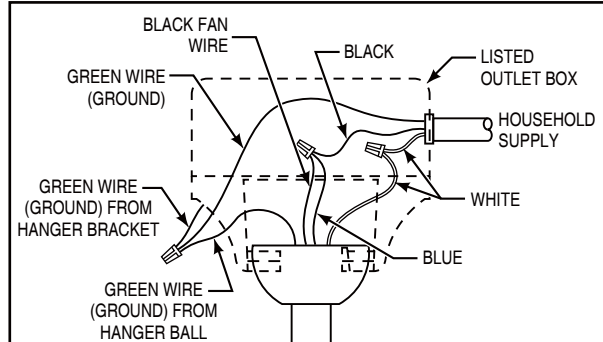

Figure 2
- ☐ 1. Connect the green grounding lead from the hanger ball and the green grounding lead from the hanger bracket to the supply grounding conductor (this may be a bare wire or wire with green colored insulation). Securely connect wires with wire connectors supplied. (Figure 2)
- ☐ 2. Securely connect the white fan motor wire to the white supply (neutral) wire using wire connector supplied. Securely connect the black fan motor wire and blue wire to the black supply wire using wire connector supplied. (Figure 2)